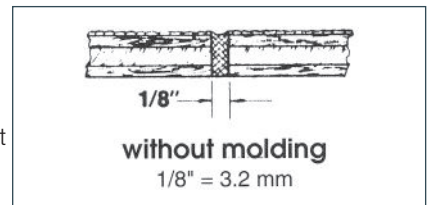

FIGURE 26
- Laminated panels may be installed without a division bar molding, but maintain a 1/8" space between panels. This space allows for normal expansion and should be filled with silicone sealant to completely seal the installation from moisture (Figure 26).